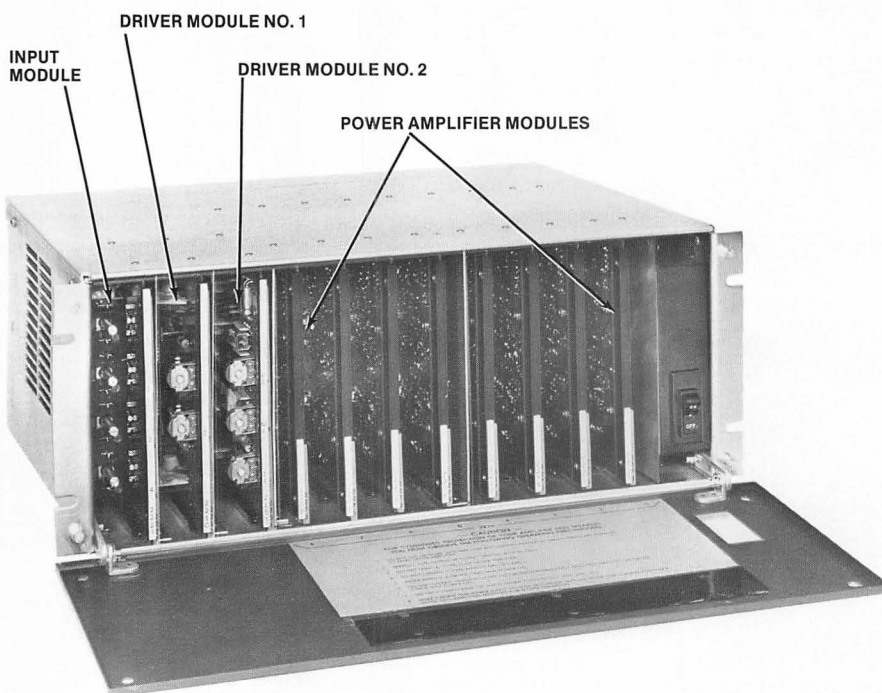

Figure 5. Installation of Card Modules in Main Frame
1. Remove four screws that secure the front panel. Open and lower front panel as shown in Figure 5.
The input, driver, and power modules are installed in the main frame according to the functional locations of Figure 5. The ac primary power module is installed in each main frame shipped from the factory. Remaining modules must be unpacked and installed in the main frame as follows: